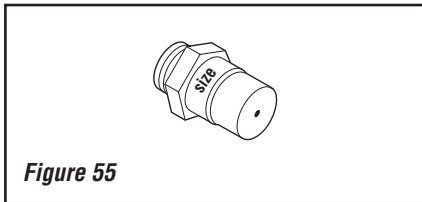

Figure 55
Step 14. Unscrew the rear and front main burner orifices (*refer to Figure 54*) from their respective manifolds and replace them with the ones provided in this kit. There are two main burner orifices provided in this gas conversion kit. Refer to **Table** below for the correct front and rear main burner orifice sizes for the gas being used. The orifice size is stamped on the orifice. See *Figure 55*.